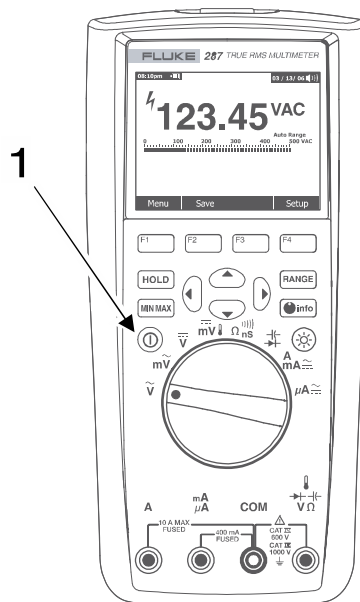

Figure 19. Multimeter On/Off Button
1. Press the On/Off button (Figure 19., Item 1) to turn the multimeter on.